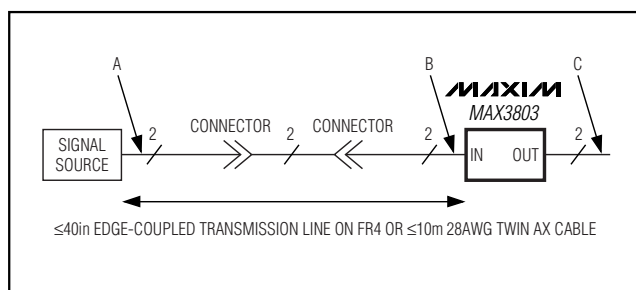

Figure 1. Backplane Interconnect
**Note 3:** Measured differentially at point C with 50Ω ±1% at each side (Figure 1).
**Note 5:** Difference in peak-to-peak deterministic jitter between reference points A and C in Figure 1. Evaluated at 2.5Gbps with CJTPAT.
**Note 6:** Difference in peak-to-peak deterministic jitter between reference points A and C in Figure 1. Evaluated at 2.5Gbps with a PRBS 27 with 100 CIDs input pattern.
**Note 7:** Difference in peak-to-peak deterministic jitter between reference points A and C in Figure 1. Evaluated at 3.125Gbps with CJTPAT.